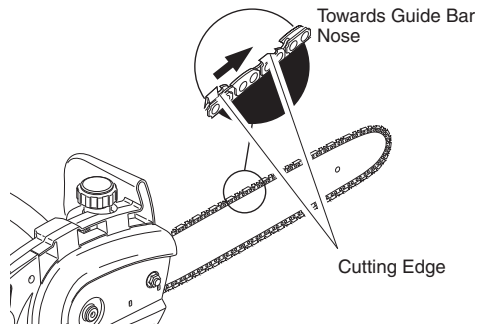

Figure 6 - Saw Chain Direction
6. Place chain around drive sprocket, along top groove of guide bar, and around guide bar nose. *Note:* Make sure cutting edges of chain are facing in right direction. Position chain so cutting edges on top of guide bar face guide bar nose (see Figure 6 and indicator on side cover of saw).